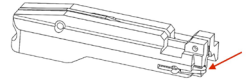

Fig. 13.1
- The body of the bolt and bolt handle must be lubricated. Periodically, a drop of suitable oil should be placed on the extractor (Fig 13.1) to maintain a very thin film of oil. However, too much oil can gum up the operation of the bolt mechanism.